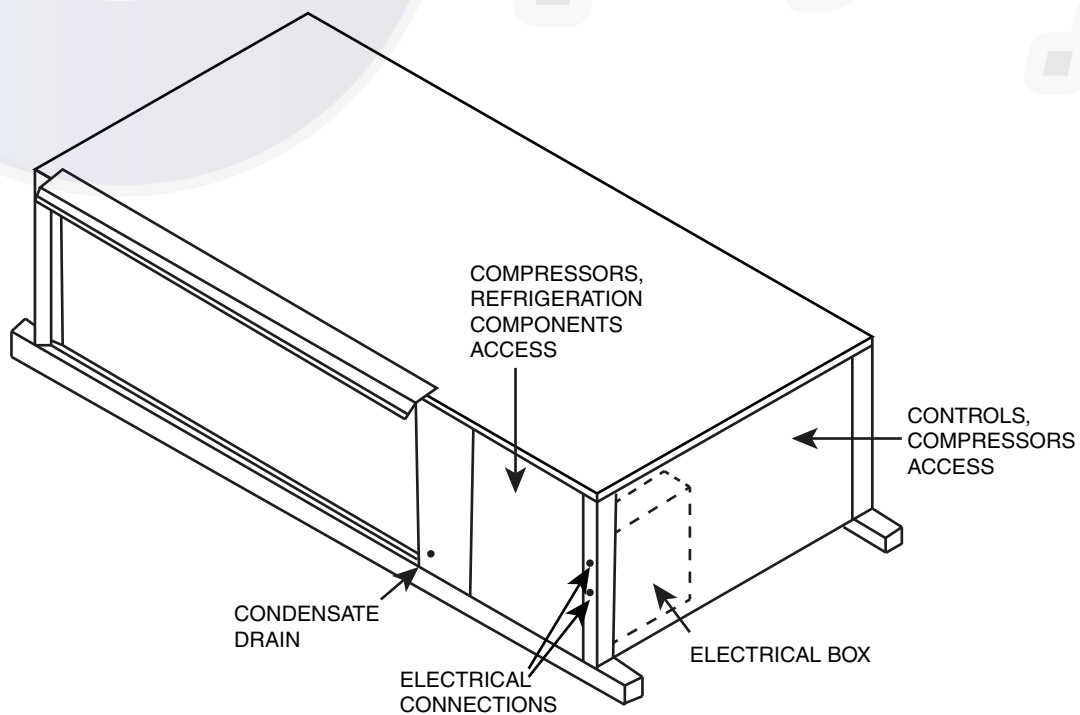
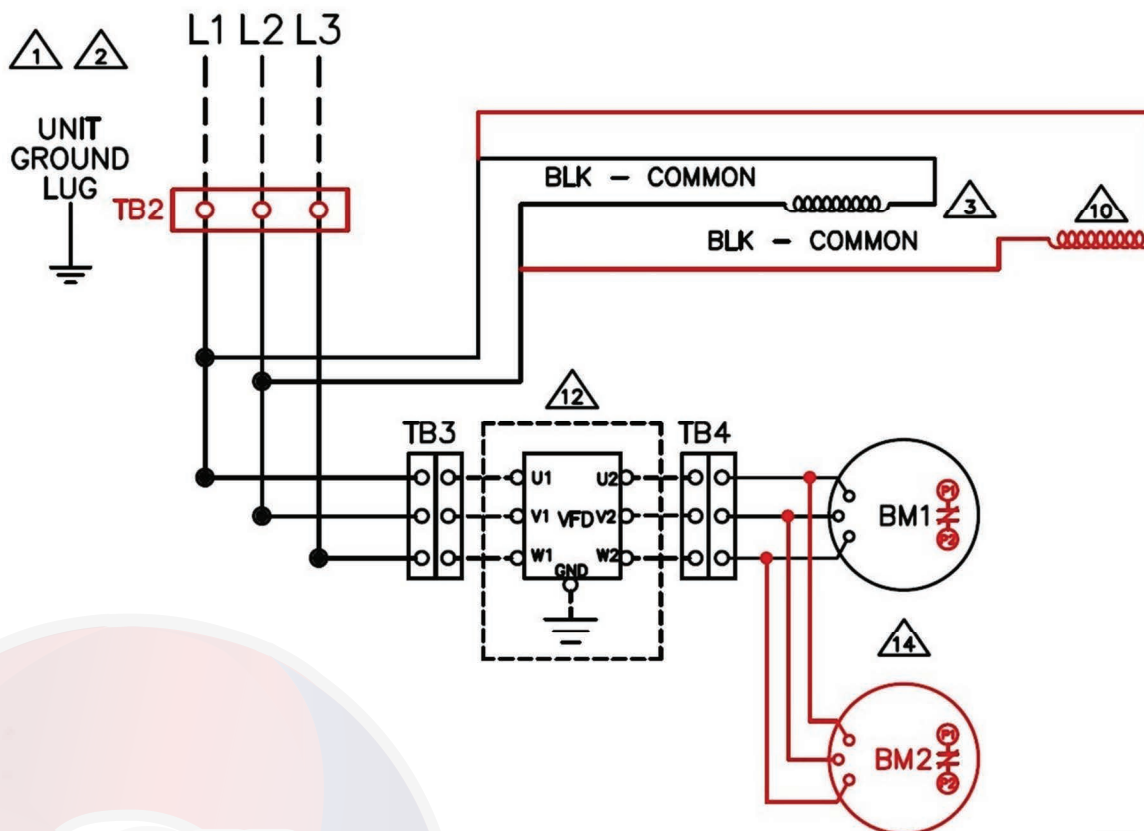

Fig. 16 — Electrical Control Box Location, 50HQP Units
Fig. 17 — VFD Input and Output Power Connections, 50HQP Units
Units with the SAV™ or single speed VFD option include a VFD that ships inside the unit control enclosure for field installation. See Fig. 17 for field power wiring for VFD. Use the following guidance for VFD installation:
4. Disconnect unit power and remove the electrical control box and compressor access panel. See Fig. 16. Make field wiring connections between VFD input terminals (U1, V1, and W1) and Terminal Block 3 (TB3) located in the electrical control box. See Fig. 17.
5. Make field wiring connections between VFD output terminals (U2, V2, and W2) and Terminal Block 4 (TB4) located in the electrical control box. See Fig. 17.